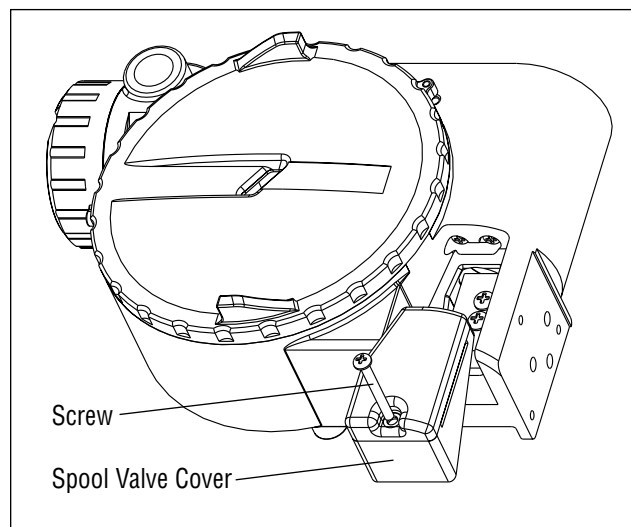

Figure 13: Spool Valve Cover Assembly
4. Remove the spool valve cover by removing the screw and sliding the cover assembly backwards until the tab is clear of the slot. Removing the sheet metal cap from this assembly is not necessary (Figure 13).
3. Remove the spool cover by removing the screw and sliding the cover assembly backwards until the tab is clear of the slot. The sheet metal cover may be removed and cleaned with a brush or by blowing out with compressed air (Figure 13).
9. Place the spool valve cover assembly in place by setting it on the ramp and sliding it until the tab seats in the slot, as shown in Figure 13, and secure with No. 8-32 screw.